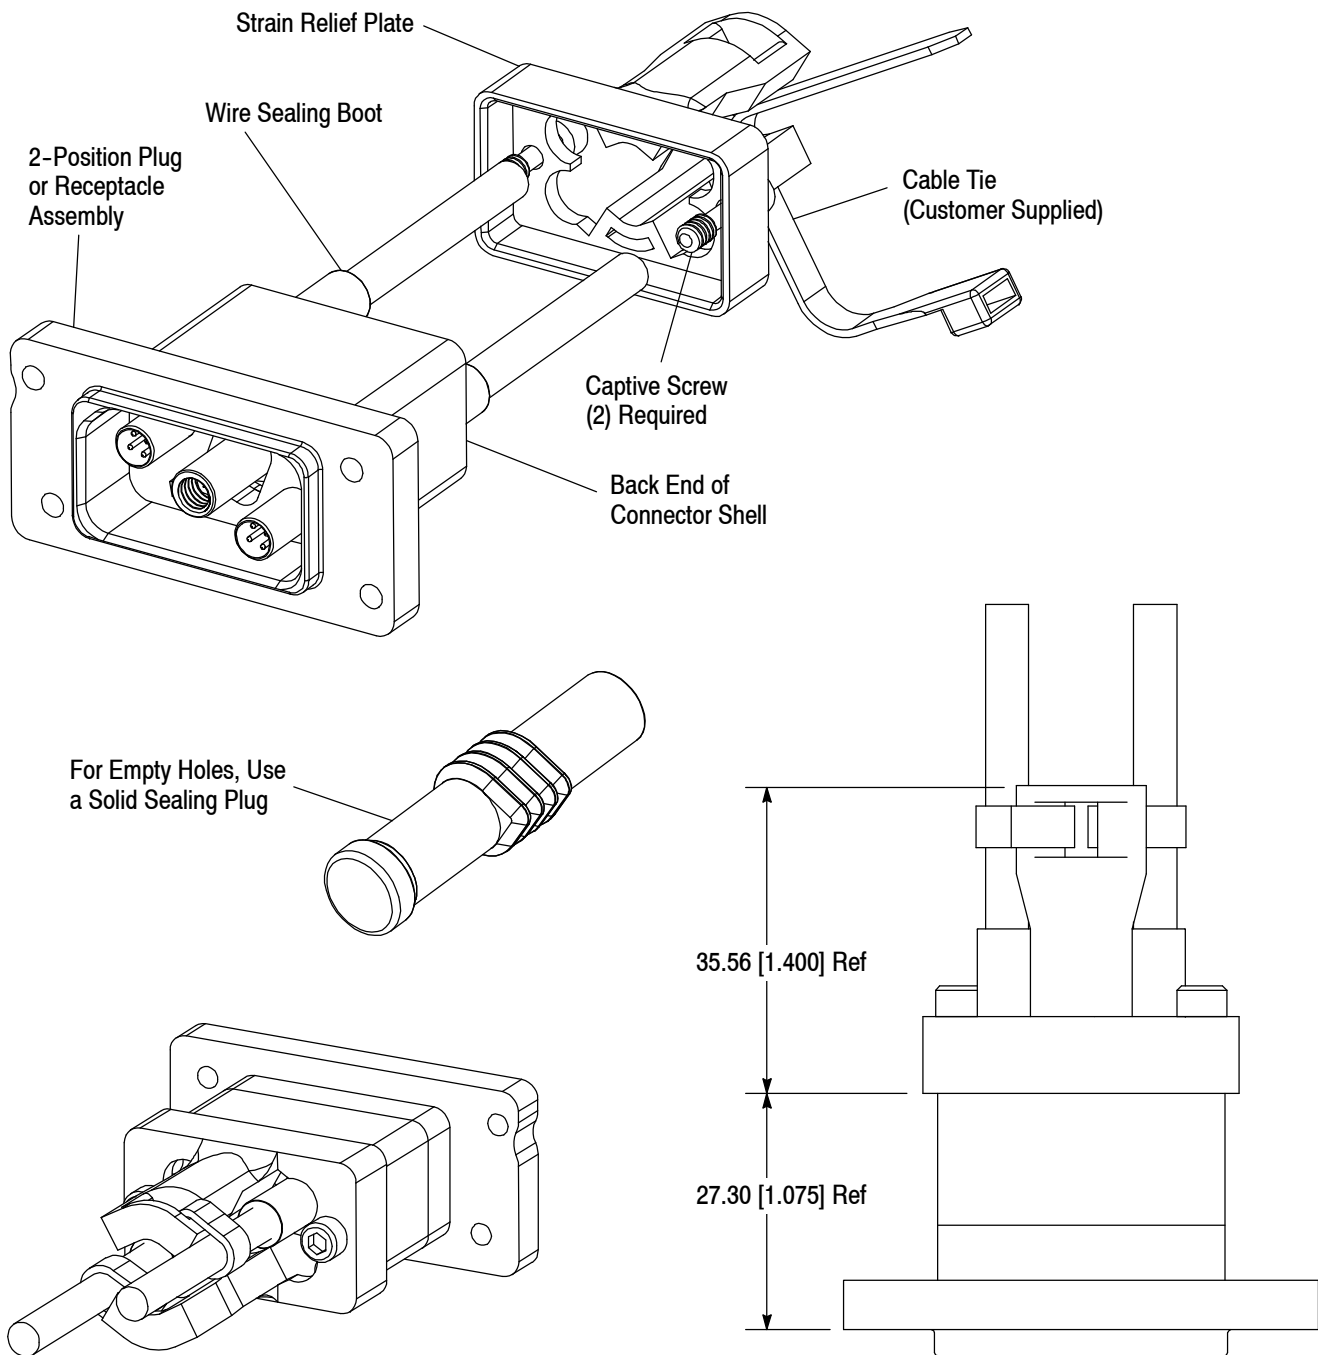

Figure 12
1. Place the backshell down onto the back end of the connector shell as shown in Figure 12. The backshell should be flush with the back end of the connector shell and pressed down on the sealing boots/plugs.
2. Using a 7/64 inch Allen wrench, tighten the captive screws to a torque value of 1.13 N•m [10 in. lbf], and apply a cable tie (customer supplied) through the back of the backshell assembly as shown in Figure 12.
3. The installed backshell assembly should meet the dimensions shown in Figure 12.